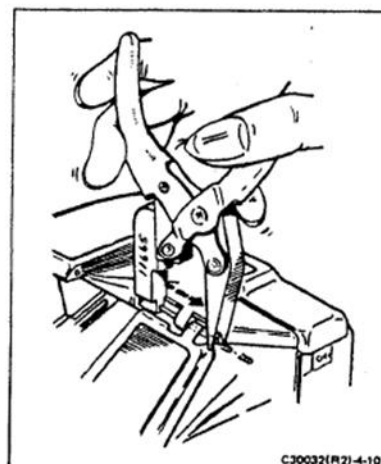

FIGURE 4-10 REMOVING SHORT-COVER-TO-MIRROR COVER HINGE PINS
10. Using Special Tool #11665, remove the two short-cover-to-mirror-cover hinge pins (Figure 4-10).